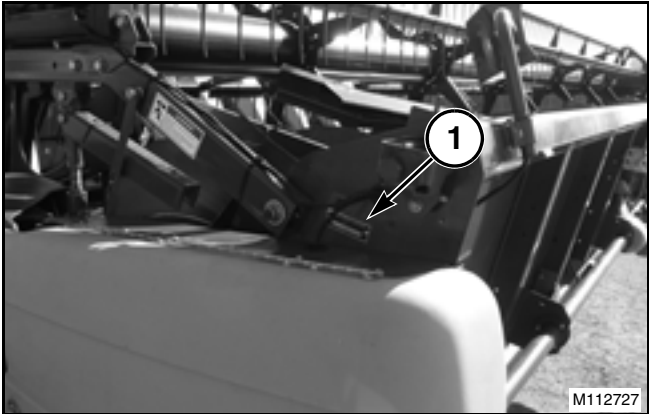

FIG. 40
FIG. 40: Each machine is identified by a model and serial number on the serial number plate (1). The serial number plate on the header is located on the left-hand end panel.